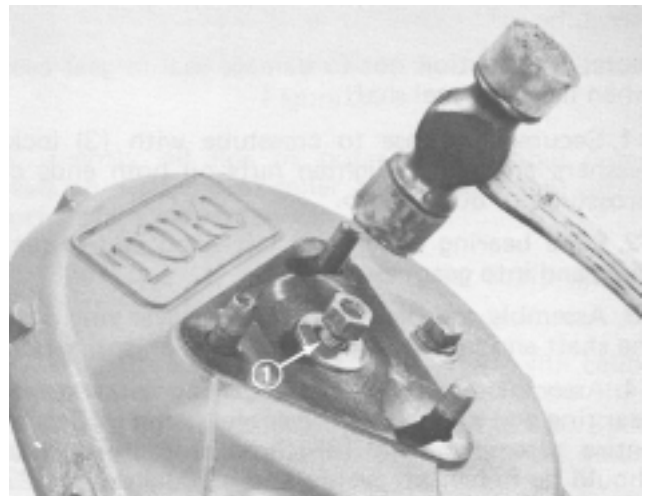

Figure 32
22. Remove stub axle shaft from gear case by loosening locknut and tapping with soft head mallet (Fig. 32).